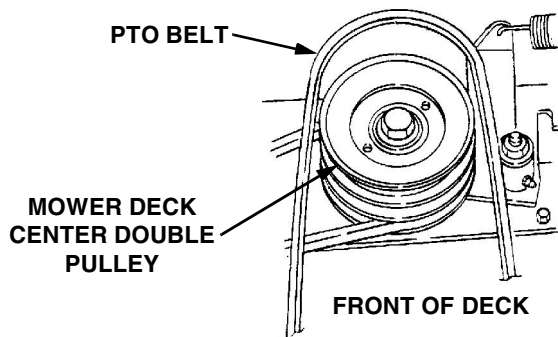

Figure 2-12
16. Working from the left/rear of the mower deck, install the rearward end of the PTO belt on the upper pulley of the deck center double-pulley (Refer to Figure 2-12). Ensure that the narrow side of the belt engages the groove of the upper pulley, and that there is no more than a 1/4 twist in the belt between the front pulleys and the double pulley.